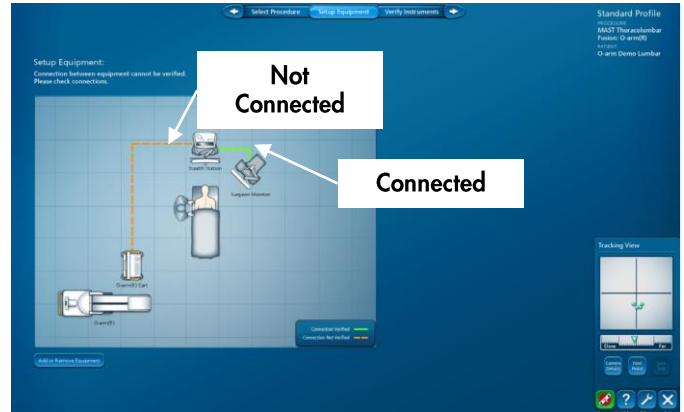

Figure 4
- Ensure that all necessary equipment (monitors, O-arm, etc.) are connected to the StealthStation™ (Figure 4). If lines are dashed orange, check connections/cables.